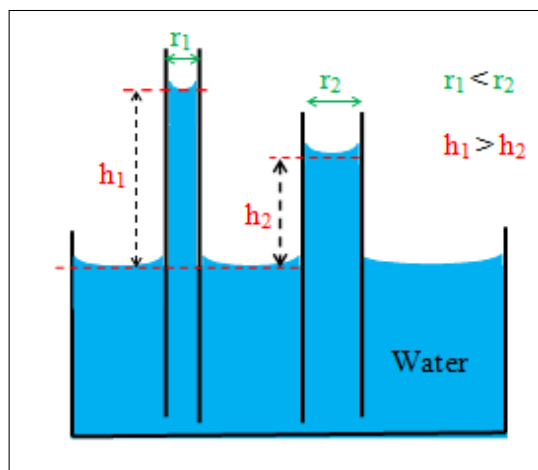

Figure 3.12 :Capillary rise and radius of the tube.
* The height of the liquid's rise (or depression) is inversely proportional to the radius of the capillary tube (Figure 3.12) .